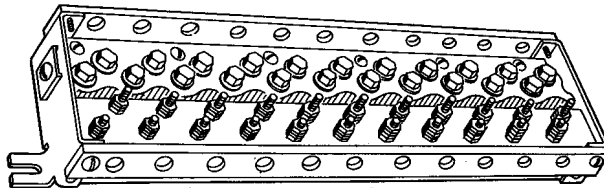

Figure 4 Protected Building Terminal
3.02 Protectors mounted side by side shall be placed on not less than five-inch centers. Maintain enough vertical separation or stagger the protectors horizontally so that covers can be removed. If the protector location is a stucco or masonry surface and two or more protectors are required, mount the protectors on a locally fabricated backboard. Where protection for multiple services is required, it is recommended that a protected building terminal (see Figure 4) be installed in place of station protectors.